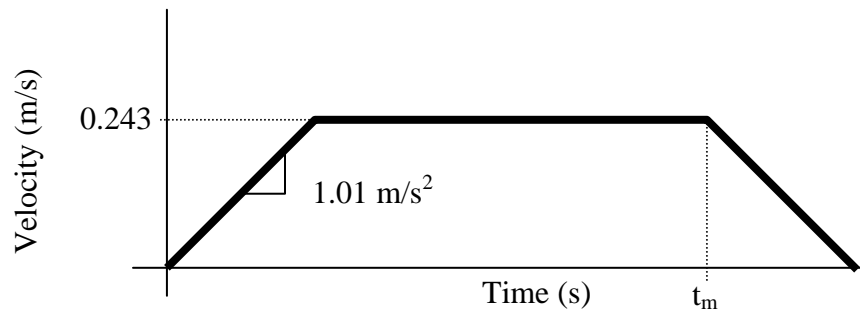

Figure 1: Drive System Velocity Profile.
Move the trolley a set distance using 3 different speeds. Speed is specified in terms of percent, with 100% being 0.243 m/s. The drive uses a trapezoidal velocity profile with an acceleration of approximately 1.01 m/s^2 , as seen in Figure 1. Use speeds of: 30%, 60%, and 100%.
- Your first task is to calculate the move time, t_m , for each of the three speeds. Figure 1 shows the move time, t_m , in relation to the velocity profile. Keep in mind that the ramp acceleration is constant for all three cases.